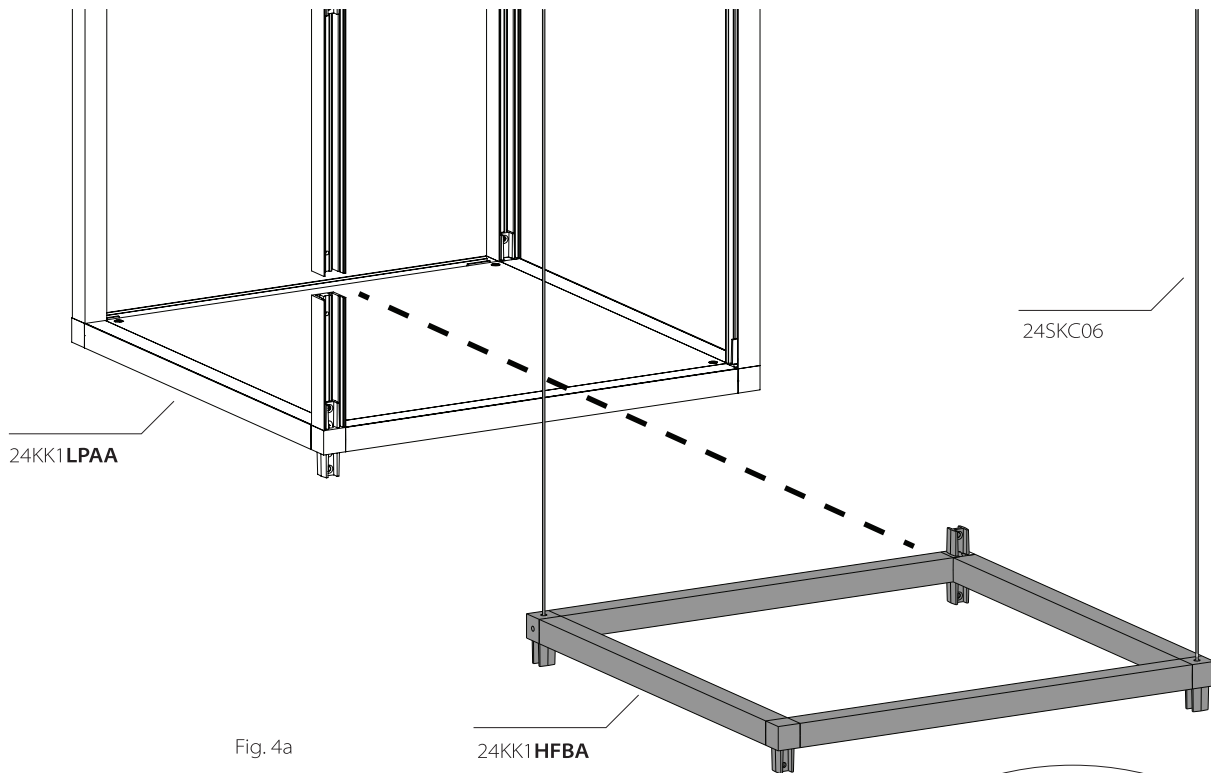

Fig. 4a
- 2a. Install 24KK1 **HFBA** to 24KK1 **LPAA** assembly as shown in Fig. 4a. Install 24SKC06 to hanging corners and tighten set screw with included Slotted Screwdriver.